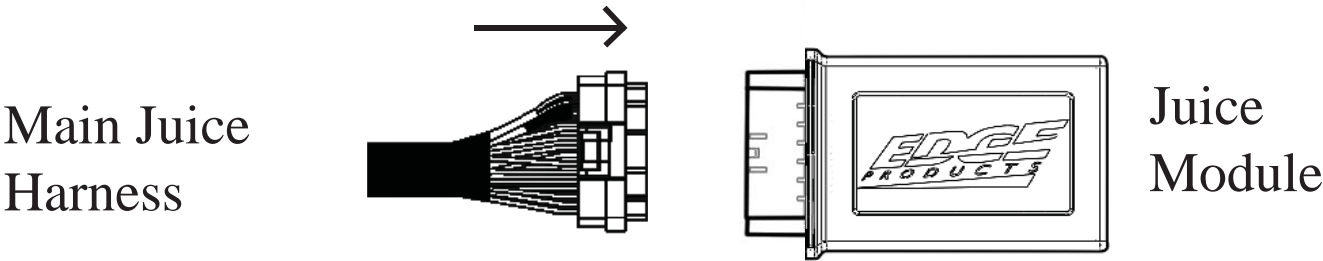

Figure 1 - Juice Module
- 1. Plug the “Main Juice Connector” into the “Juice Module” receptacle. (Figure 1)